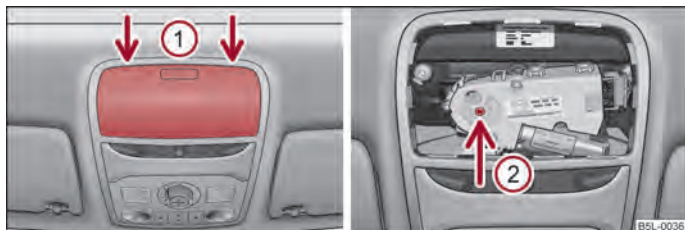

Fig. 23 Detail of the headliner/key-operated positioning point
You can close and/or open the panoramic sliding roof by hand if the system is defective. The manual control for the panoramic sliding roof is located underneath the cover of the electric drive, or underneath the glasses storage box, ⇒ fig. 23 - left, depending on the equipment fitted to your vehicle.
- Carefully insert a screwdriver, approximately 5 mm wide, into the slot in the positions shown by the arrows ① ⇒ fig. 23.
- Insert an Allen key, Group 4, up to the stop into the opening ② and close or open the panoramic sliding roof.